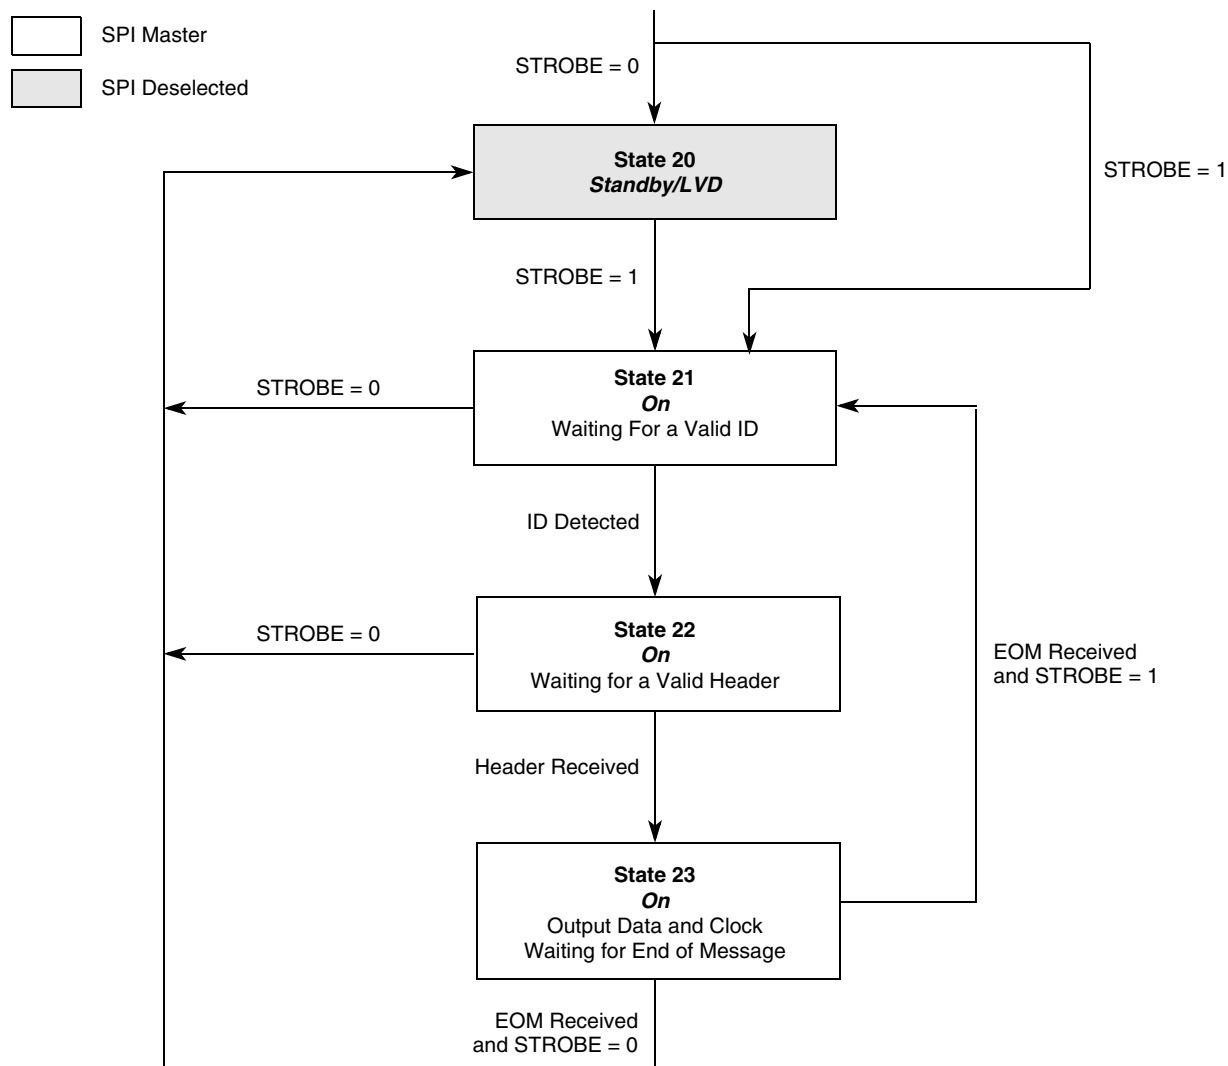

Figure 12. Receive Mode, DME = 1, SOE = 0
- External signal and internal conditions: see Figure 3 and Figure 12 for information on how to enter standby/LVD mode
Figure 12 shows the state diagram when the data manager is enabled and the strobe oscillator is disabled. In this configuration, the receiver is controlled only externally by the MCU.